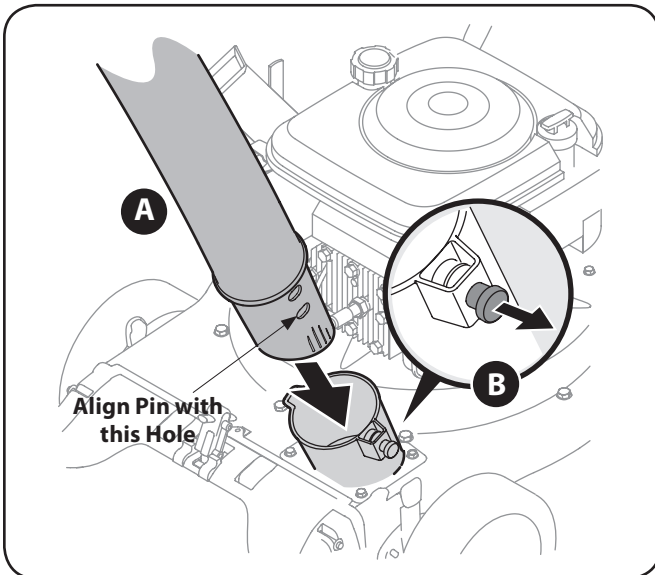

**Figure 3-3**
- b. Slip the starter rope into the rope guide. See Figure 3-3.